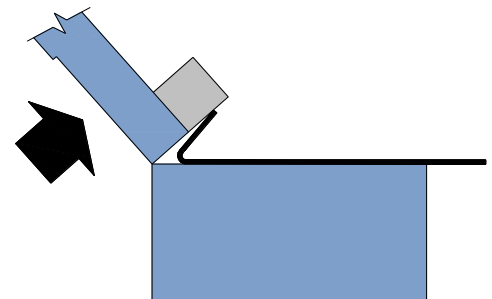

figure 12
2. Now remove the clamping bar, bring up the bending leaf, and continue the fold as in (fig. 12). (No clamping is required.)